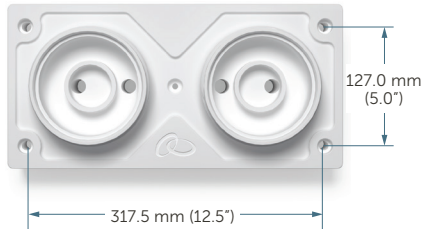

Figure 3a. Mounting hole dimensions for 2-Up configuration.
2. Mount the manifold using the four holes at the corners of each chassis. Figure 3a, 3b, and 3c provide mounting hole locations and dimensions.